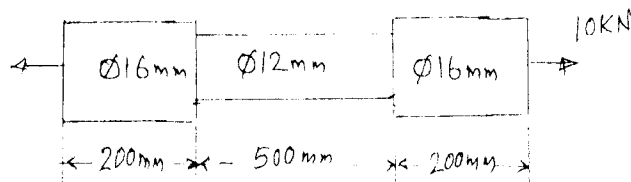

Fig Q9(c)
- c. Determine the strain energy stored in the stepped bar with circular cross section shown in Fig Q9(c) subjected to a load of 10kN. Take $E = 210 \text{ GPa}$ (08 Marks)